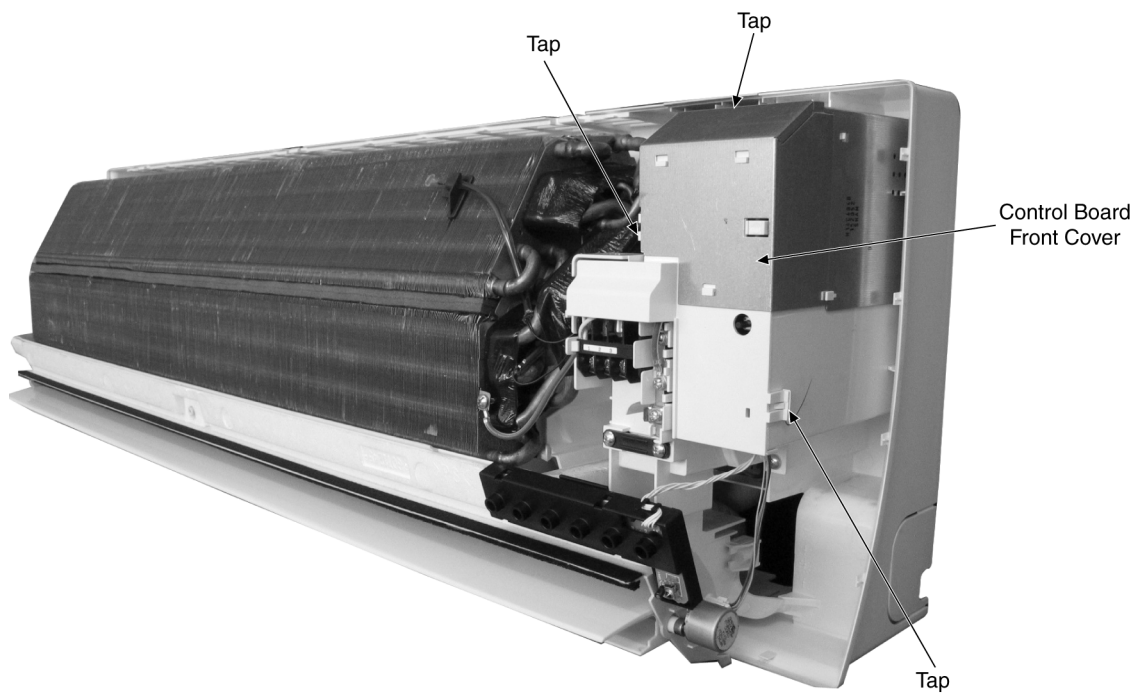

Fig. 3
- Release the taps on the top, on the left and on the right side of Control Board Front Cover. (Fig. 3)
- Then remove the Control Board Front Cover. (Fig. 3)